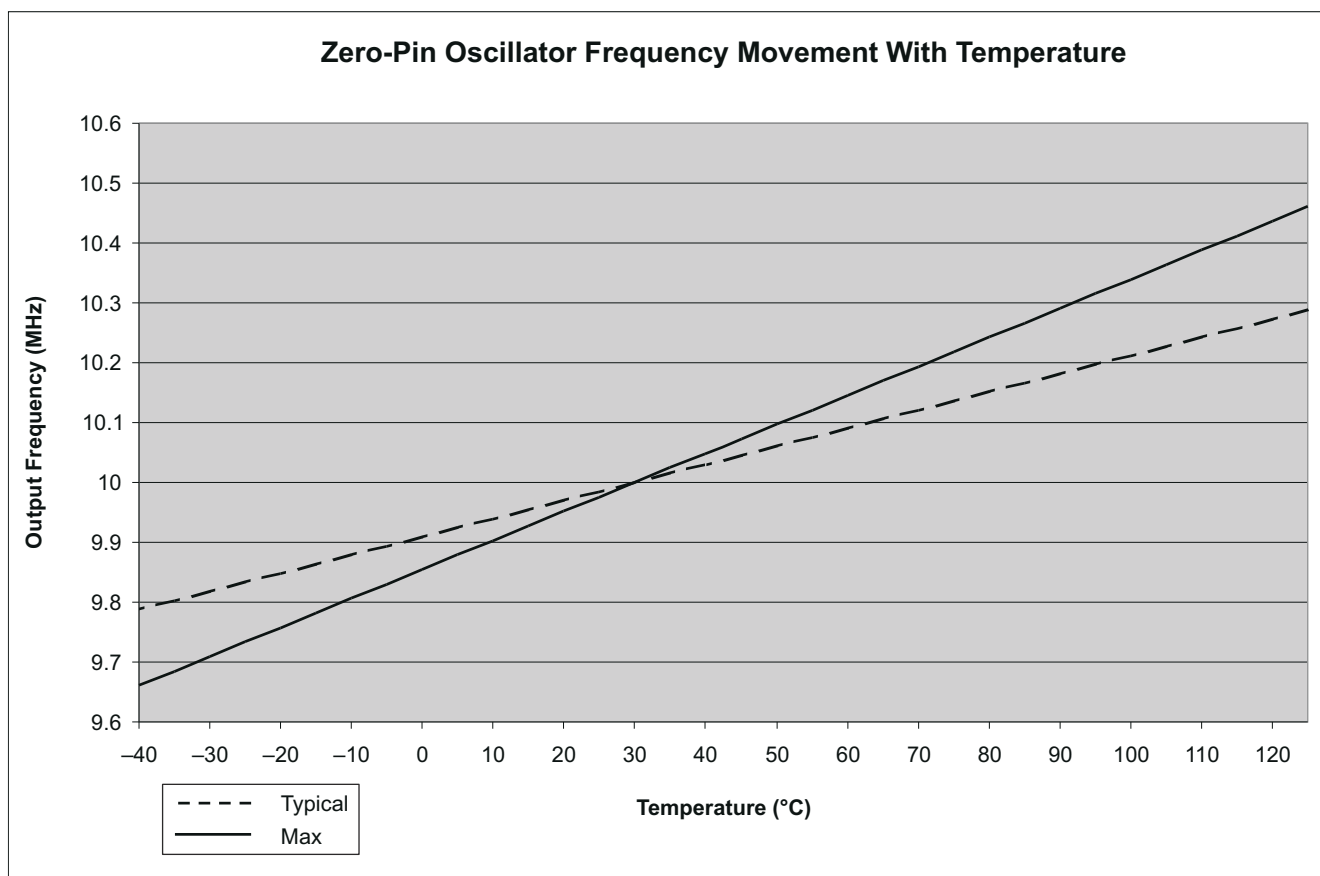

Figure 7-9. Zero-Pin Oscillator Frequency Movement With Temperature
- (1) Oscillator frequency will vary over temperature, see Figure 7-9. To compensate for oscillator temperature drift, see the Oscillator Compensation Guide and C2000Ware for C2000 MCUs.
- (2) Frequency range is ensured only when VREG is enabled, VREGENZ = V_{SS}.
- (3) Output frequency of the internal oscillators follows the direction of both the temperature gradient and voltage (V_{DD}) gradient. For example: